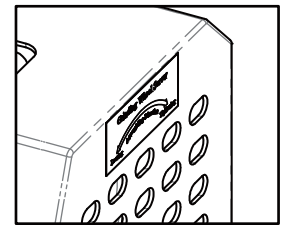

Fig. 12-1
① Unplug the power cord and make sure the power is off.
② Confirm the screw direction on the grinding wheel cover before changing the grinding wheel. (Fig. 12-1)